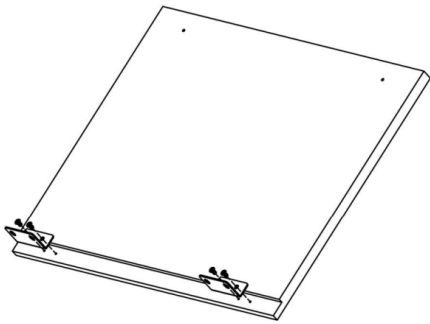

Fig. 2
5. Slide the installed overlay panel, in the direction of the door.(Fig.2)
- 3. Prepare the overlay panel by drilling installation holes for the handle and the bottom mounting brackets (20 × 4 mm). Then, attach the mounting brackets to the panel using the provided Phillips self-tapping screws. (Fig. 2)